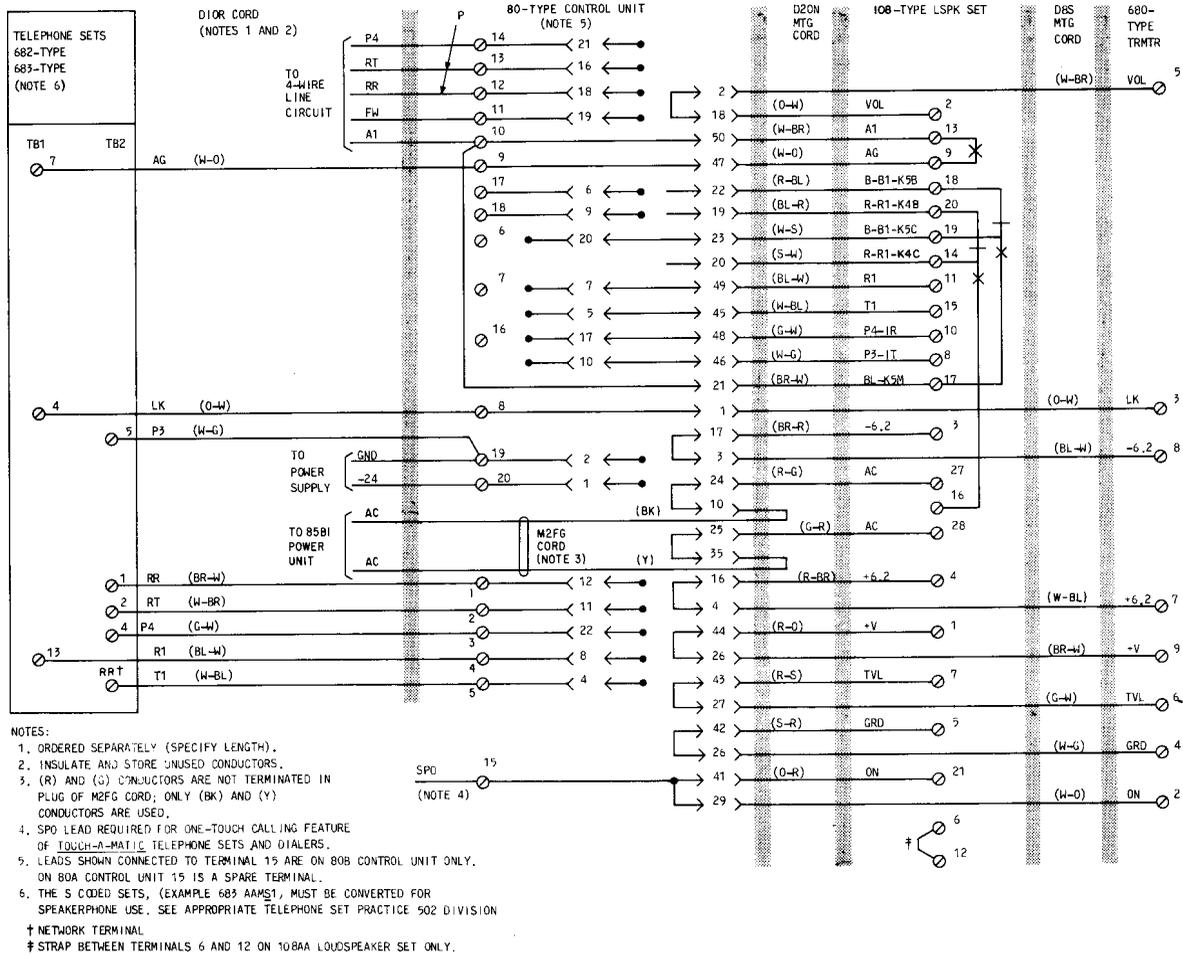

Fig. 2—4A Speakerphone Connections, Telephone Set Equipped With a Rotary Dial
2.10 Supply voltage for the 80-type control unit is provided from a -24 volt dc external supply, (from associated key telephone system). Connect supply voltage to the proper terminals as shown in Fig. 2 and 3.